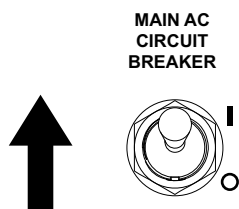

Figure 3-16. Main Circuit Breaker ON (I)
2. See Figure 3-16. Switch main circuit breaker to ON (I).